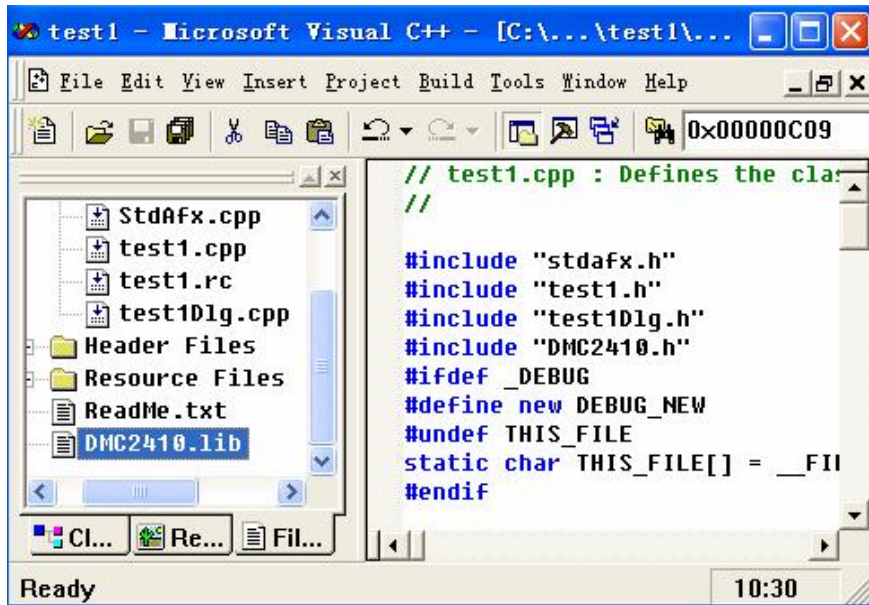

Figure 5-7 Add head file
(8) Copy DMC2410.h and DMC2410.lib from the folder “driver” of Leadtech DMC2410 CD to the folder “E:\test1” ;
(9) Click “Project”->“Add to project”->“Files”, Choose DMC2410.lib to add in the project;
(10) Open test1.cpp, add #include “DMC2410.h” at the head of program, as figure 5-7 shown;